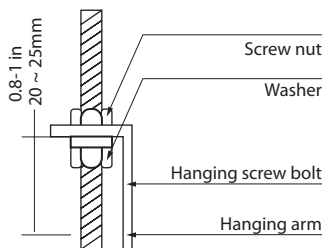

FIG. 5-9
- Locate the hanging arm on the hanging screw bolt. (Refer to Fig. 5-9)